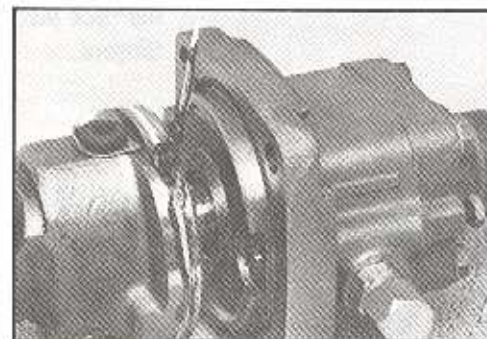

Figure 151
42. Apply a generous amount of clean grease to the Teflon piston ring (34A) or cast metal ring (34) on assembled rack piston and to the housing rack piston bore. SEE FIGURE 151.